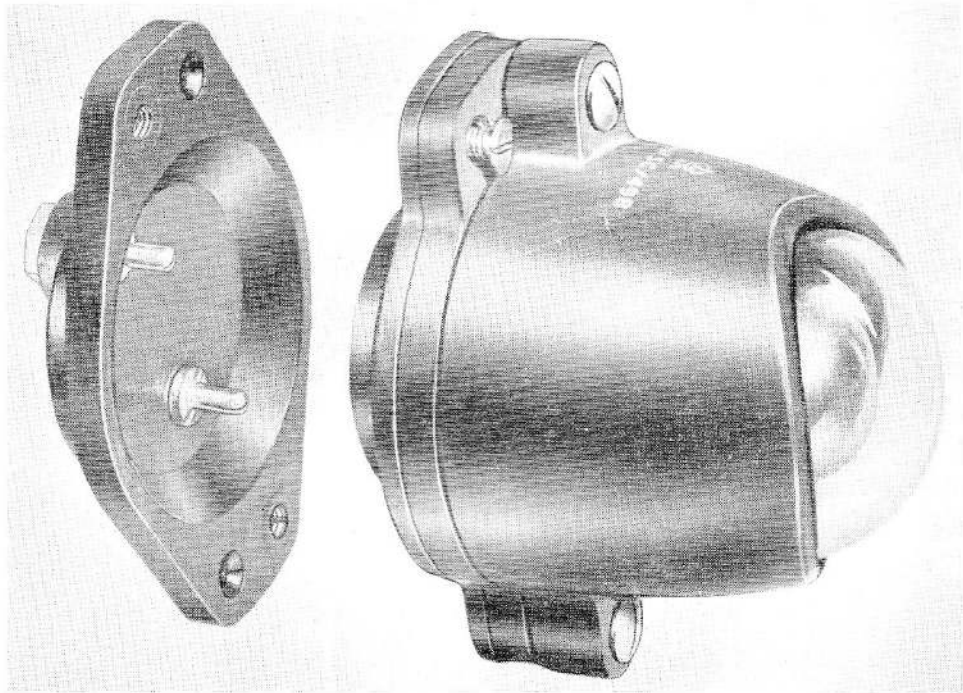

Fig. 1. Tail navigation lamp, Type A
2. The tail lamp, Type A, is made of synthetic resin compound, and consists of two parts, the lamp proper and a base which is fixed to the airframe. Two csk/hd. screws are used to secure the lamp to the base, and electrical connection is made by means of plug pins and socket inserts. The pins are in the base, and the socket inserts on the lamp (*fig. 1*).